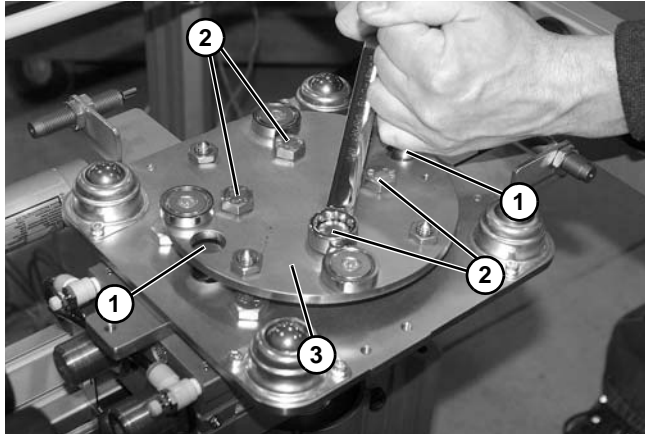

Figure 101
If replacing cylinder only remove 2 bolts thru access holes in (Figure 101, item 1), and skip to step 13.
6. Remove four bolts (Figure 101, item 2) from rotation plate (Figure 101, item 3).